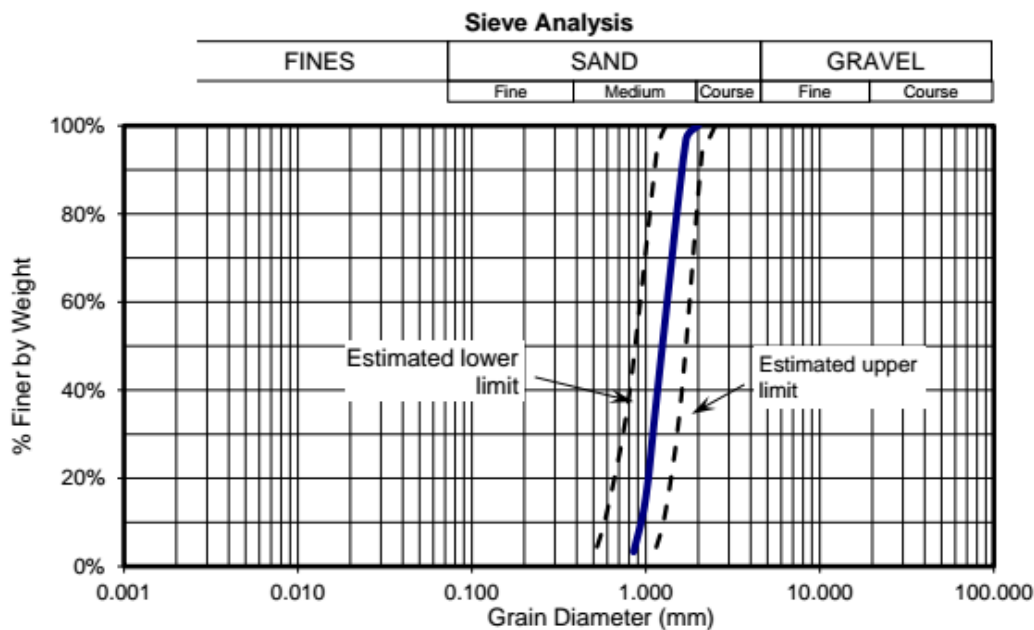

Figure 3: Estimated grain size distribution of backfill sand
8. Backfill Material- The backfill material will be sand provided by competition organizers on site. The sand will be a clean, dry, rounded to subrounded sand with grain size as specified in Table 1 and Figure 3. The backfill material must be used as-is: no water, additives, or chemical stabilizers may be placed in the backfill material.
Competition organizers will make reasonable efforts to ensure the competition backfill materials meet the specifications in Table 1 and Figure 3. Teams will be allowed to examine a sample of the competition backfill at the captains' meeting. No backfill samples may be removed from the meeting room. Teams may modify their wall design at this time if they desire. See paragraph 11 below.
- Clean sand with grain size distribution as specified in Table 1 and Figure 3